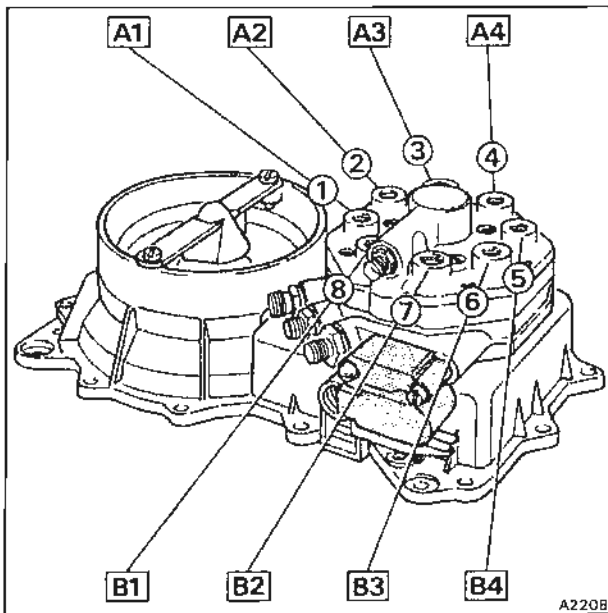

Fig. B3-36 Fuel distributor connections
**Note** Outlet one from the fuel distributor should always be nearest to the fuel inlet connection. Figure B3-36 indicates which test line and switch of the test equipment are connected to which engine cylinder.